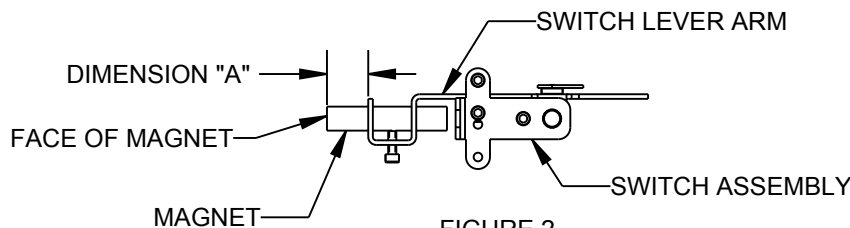
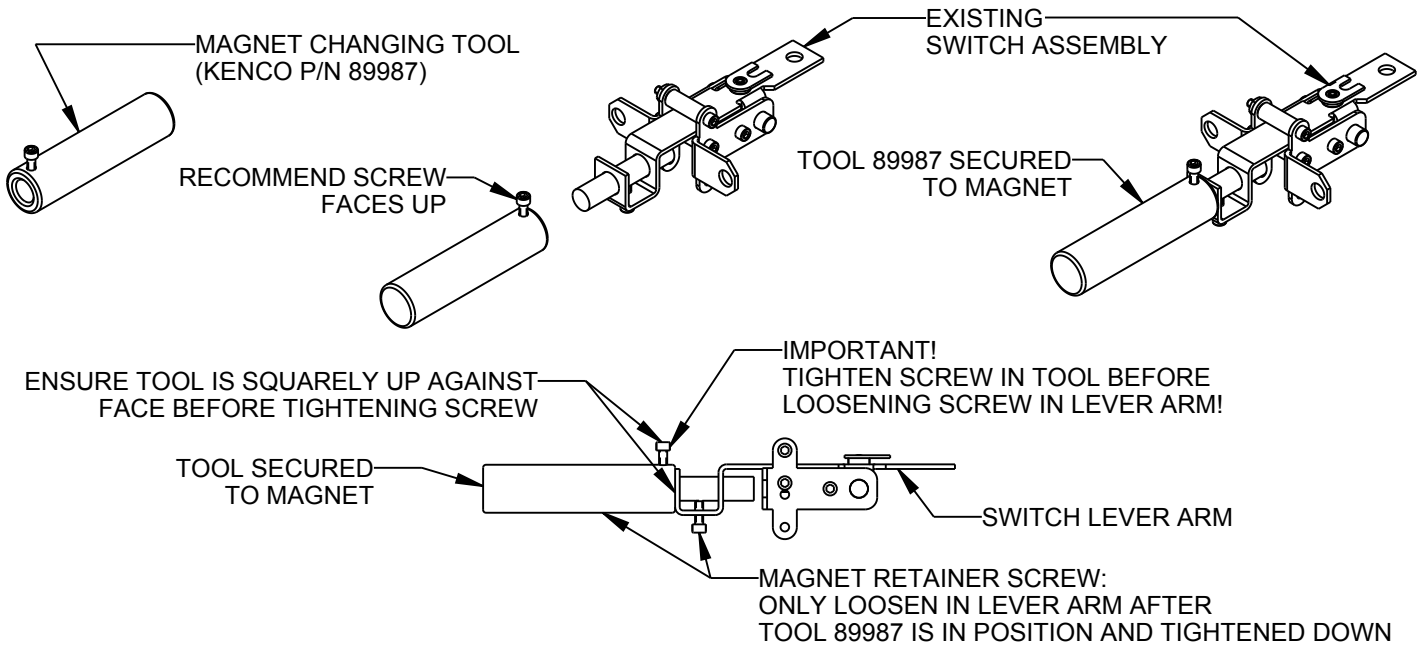
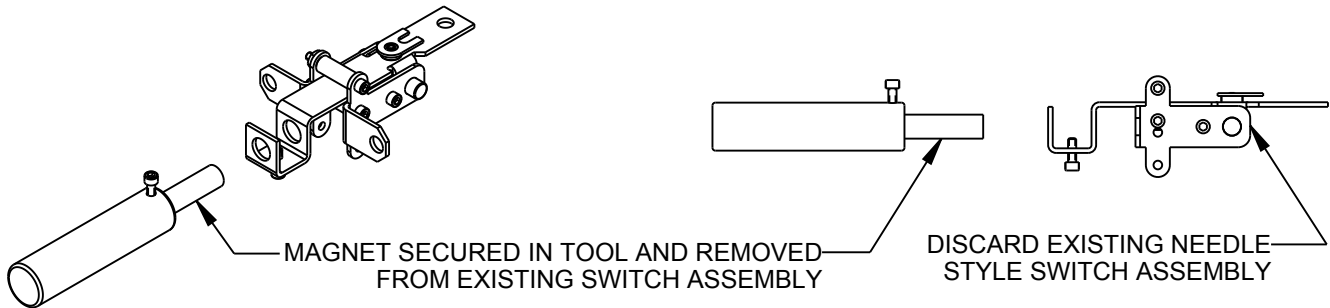
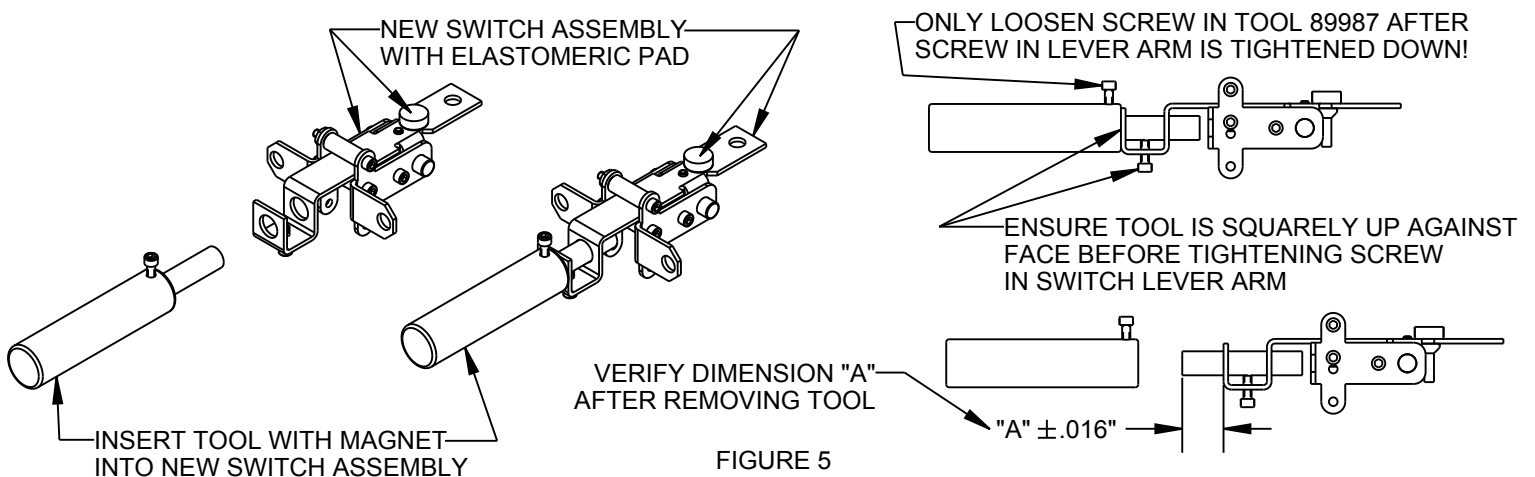

FIGURE 2
FIGURE 3
FIGURE 4
FIGURE 5
**IMPORTANT - STEP 2** involves removing the magnet from the existing KPFS switch assembly lever arm and installing it in the new switch assembly lever arm included in the conversion kit. This is a critical operation and special care must be taken! The distance from the face of the magnet to the end of the lever arm (dimension "A" in Figure 2) is critical. A special magnet changing tool per Kenco P/N 89987 must be utilized! Failure to place the magnet in the new switch assembly at the same distance from the end of the lever arm as it was in the original lever arm could cause the KPFS to operate erratically or not at all.
Before loosening the magnet retainer screw, measure distance "A" (See Figure 2 on Page 1) and write it down. Calipers or a depth micrometer will provide the most accurate measurement. At a minimum, use a machinist scale with increments down to 1/64". This will be used to confirm that the magnet was transferred properly. Once the distance from the end of the magnet to the end of the lever arm is documented, the magnet removal process can begin. Start by inserting the magnet changing tool (P/N 89987) over the end of the magnet until it is up against the lever arm as shown in Figure 3. It is recommended that the screw in the tool is facing up. With tool squarely against end of lever arm, tighten the screw in the tool. The tool should now be secured to the magnet.
Once the tool is secured to the magnet, the magnet retainer screw in the existing switch lever arm can be loosened (See Figure 3). At this point, the magnet should be securely held by tool 89987 and can be removed as shown in Figure 4. Since the existing switch assembly will not be reused, it can be discarded once the magnet is removed.
Locate the new switch assembly with the elastomeric pad. To install the magnet in the new switch assembly, simply reverse steps 2 and 3. Start by inserting the magnet in the lever arm of the new switch assembly. With the magnet changing tool squarely up against the end of the lever arm, tighten the magnet retainer screw in the lever arm to secure the magnet in the switch assembly. With the magnet secured to the switch assembly, loosen the magnet changing tool screw and remove the magnet changing tool. Check Dimension "A" and make sure it is within  $\pm .016"$  ( $\pm 1/64"$ ) of the original measurement documented from Figure 2. See Figure 5.